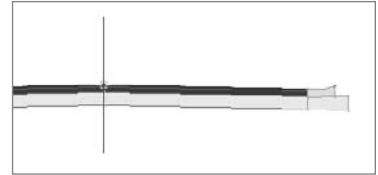

Figure A.69
11. Note that the command line states `Select marker point within assembly or [RETURN for Detached]`. Click the circular point marker on the right LaneOutsideSuper subassembly that represents the edge of the pavement to place an UrbanCurbGutterValley1 subassembly at the edge of the pavement (see Figure A.69). If you misplace your UrbanCurbGutterValley1, simply use the AutoCAD Erase command to erase the misplaced subassembly and return to step 10.